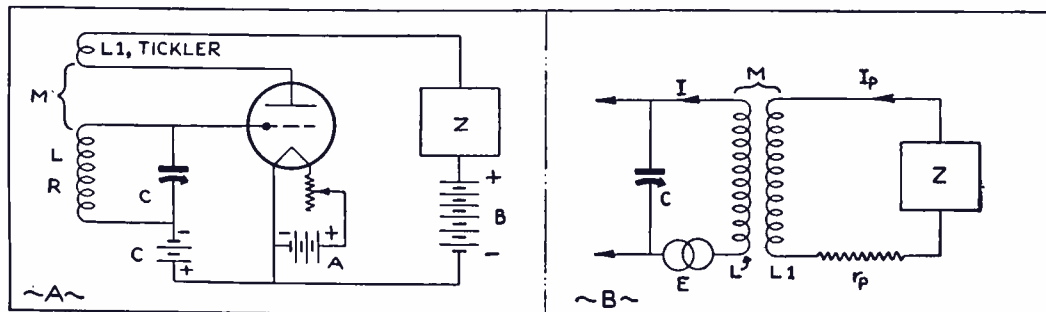

FIG. 1: SCHEMATIC AND DIAGRAMMATIC CIRCUITS OF A TICKLER CIRCUIT
Method: The assembly of the unit is simplified by following the symbols of the diagram (Fig. 1) and referring to them in the photos. The Vacuum Tube Control Unit is the same as was used in the first series of experiments. We connect the antenna (Ant.) and ground (Gnd), the A battery (small dry cell), the B supply (which may have any value from 90 to 250 volts in the form of B batteries or a B eliminator, with the latter preferable), and the plug-in coil (L) having the most turns (coil D). After these connections, the following adjustments are made: